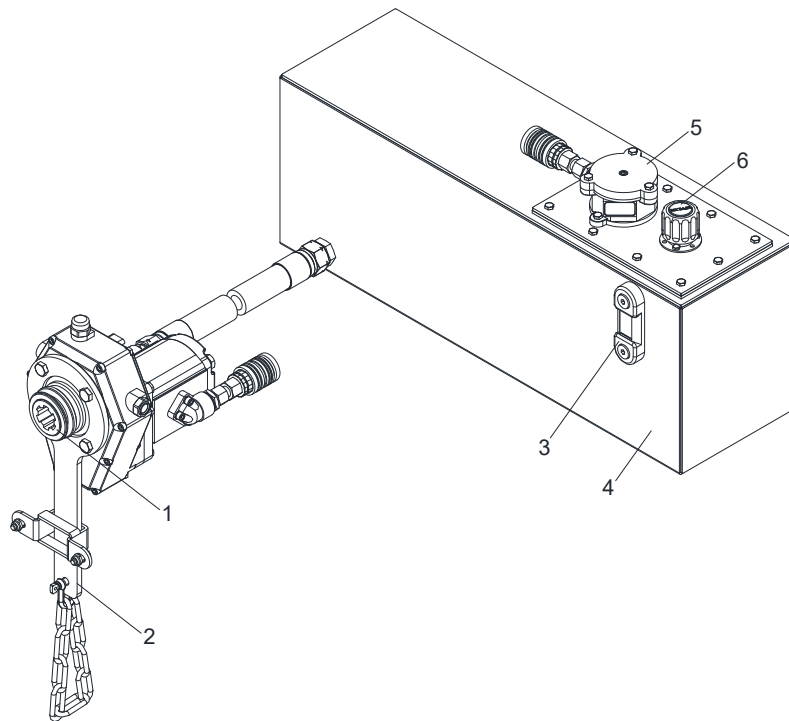

Fig. 11 PTO driven External oil supply unit
The external oil supply unit consists of a PTO gearbox with slip-on pump (Fig. 11/1), torque arm with safety chain (Fig. 11/2), sight glass (Fig. 11/3), hydraulic tank (Fig. 11/4), return filter (Fig. 11/5) and filling and venting filter (Fig. 11/6).
The oil temperature, see sight glass (Fig. 11/3), should be approx. 25°C when starting work; if necessary, warm up the hydraulic system.
- ▶ Before starting work, check the oil level in the hydraulic tank (Fig. 11/3).